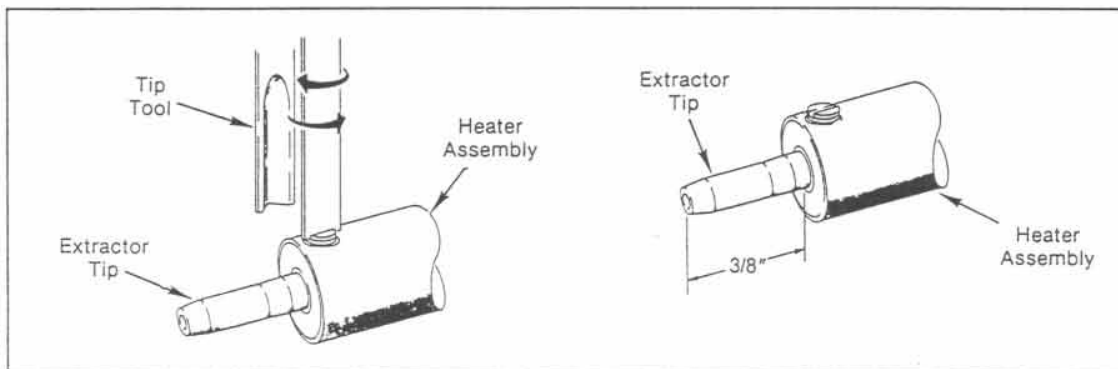

FIGURE 8. EXTRACTOR/SOLDERING IRON TIP REPLACEMENT
- using Tip Tool, loosen the Heater set screw (1/4 turn). (Refer to Figure 8).